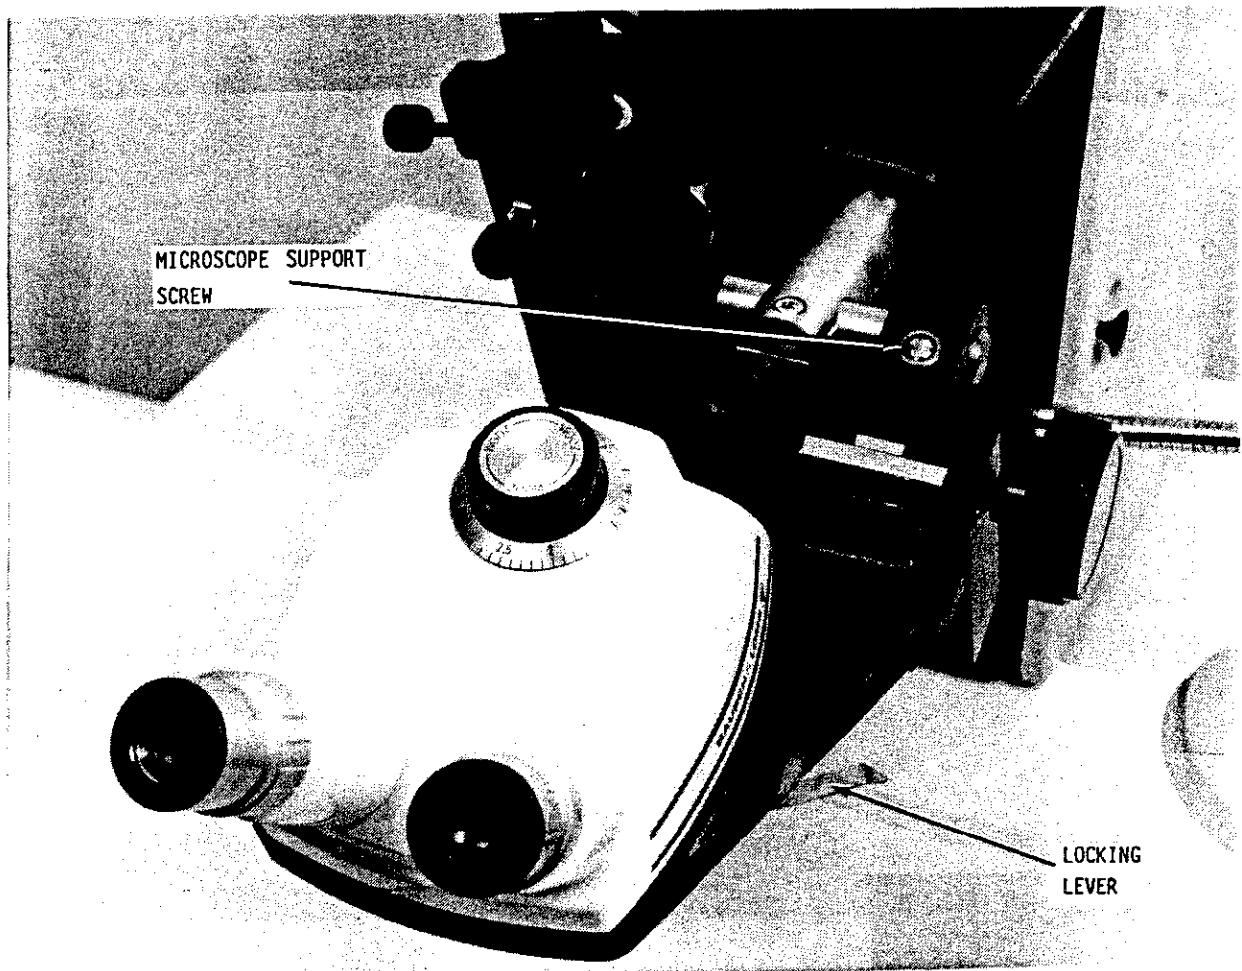

Figure 1-9 B&L Microscope Installation
- Step 1** Take the microscope holder out of the accessories box, unwrap and install it on the microscope support (see Figure 1-9).